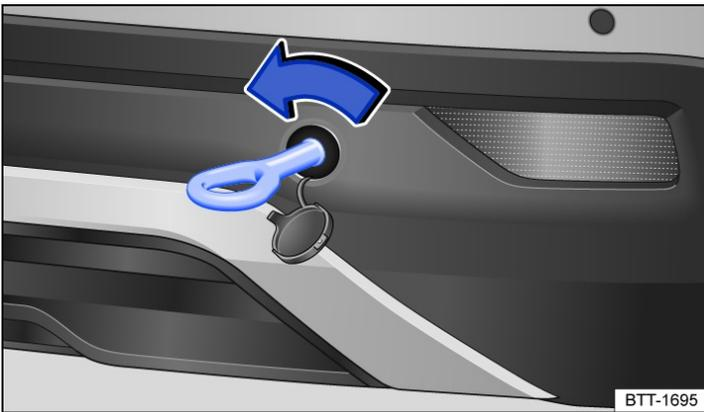

Fig. 2 In the rear bumper on the right: screwing in the towing eye: screwing in the towing eye.
- Screw the towing eye anticlockwise into the threaded hole and tighten as far as possible → *Fig. 2*, → ⓘ. Use a suitable object to screw the towing eye fully and securely into the mounting.